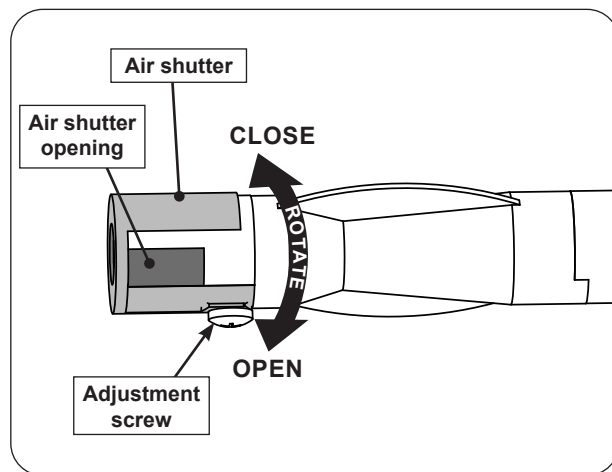

Fig. 34-2 Side burner air shutter adjustment detail
2. Loosen the adjustment screw with a screwdriver, then carefully rotate the shutter to open or close it. See Fig. 34-2 for details.